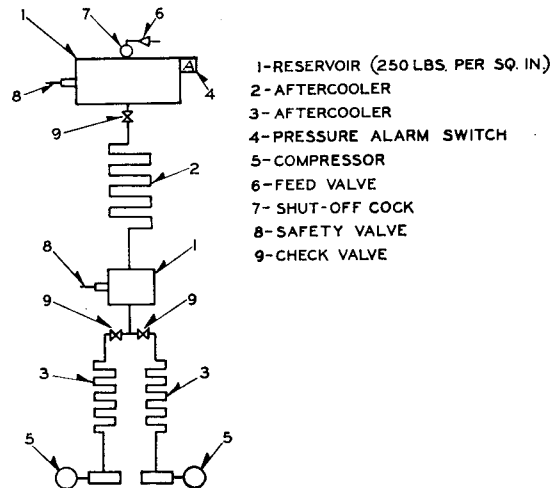

FIG. 12—SCHEMATIC ARRANGEMENT OF SUPPLY UNIT (TWO COMPRESSORS)
- Fig. 12. Schematic Arrangement of Supply Unit (Two Compressors).
**Moisture Removal**—In addition to the intercooler between stages of compression, a first aftercooler is located between the high pressure outlet of the compressor and the first (smaller) reservoir, with a second aftercooler between the reservoirs, as shown in Fig. 12.